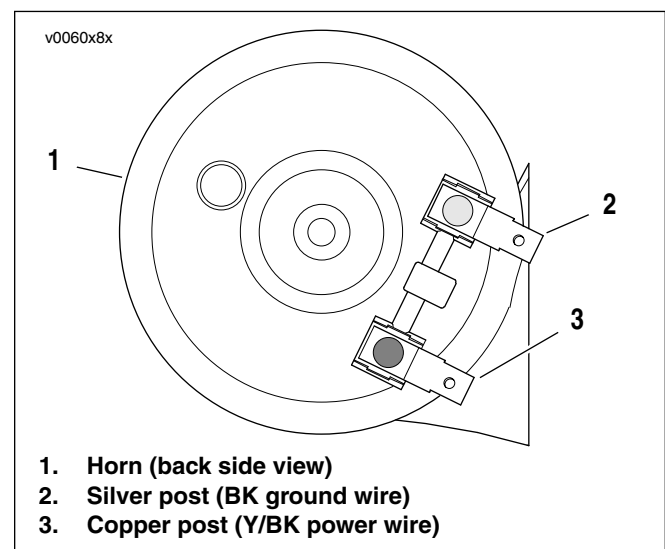

Figure 8-69. Horn Wiring (typical)
4. Install new horn on bracket. Secure with flange nut (7). Tighten to 6-8 Nm (53-70 in-lbs).
5. See Figure 8-69. Attach wiring.
- a. Connect BK ground wire to silver post (2).
- b. Connect Y/BK horn power wire to copper post (3).